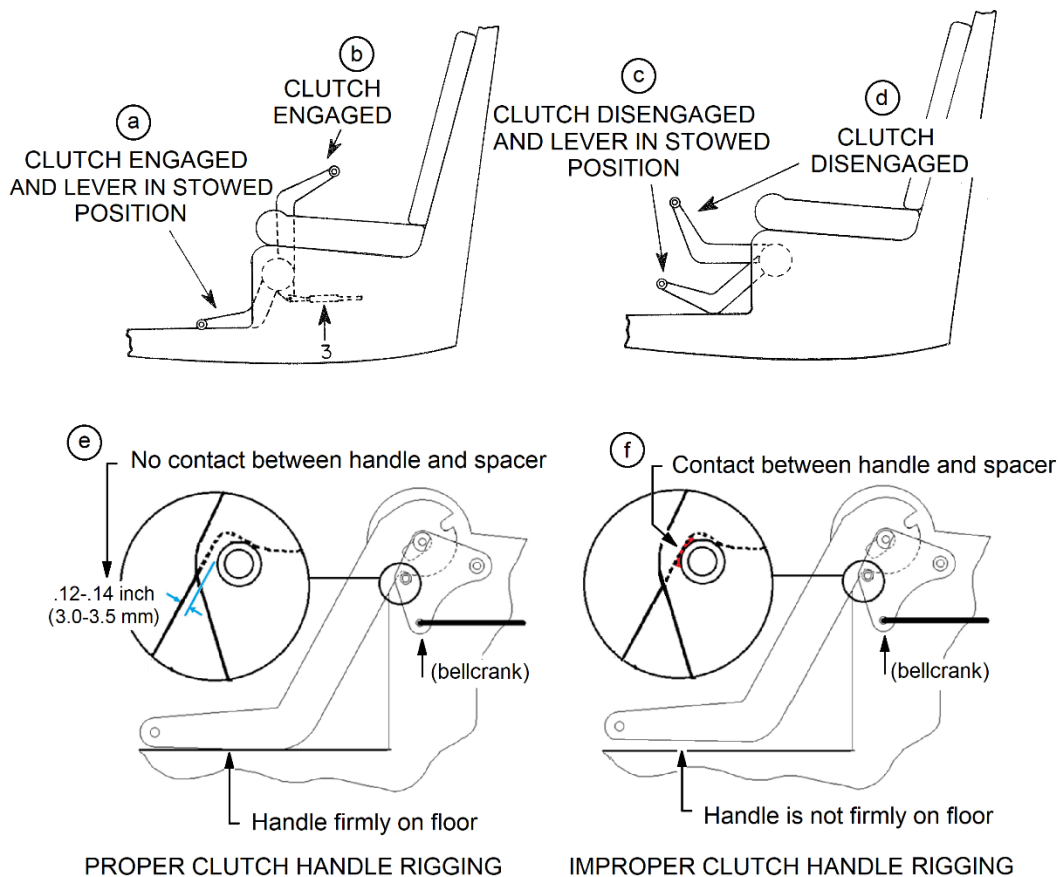

Figure 11-1. Clutch Rigging
- (1) Pull clutch handle up a couple inches and SLOWLY return lever to CLUTCH DISENGAGED position (Fig. 11-1, Detail d).
- (2) ENGAGE clutch and STOW clutch lever (Fig. 11-1, Detail a).
- (a) The clutch lever should lie flat on the floor (Fig. 11-1, Detail a). Movement of the handle should have no effect on the bellcrank (Fig. 11-1, Detail f).
- (b) Use the shank of a 1/8 drill bit or a #30 drill bit to verify that there is approximately .125-inch (3.2 mm) space between the clutch lever and the spacer in the bellcrank (Fig. 11-1, Detail e).
- (a) Place clutch in ENGAGED position (Fig. 11-1, Detail b). With clutch engaged, lift and release clutch lever to stowed position (Fig. 11-1, Detail a). Adjust turnbuckle (3) until the clutch lever will lie flat on floor and that there is approximately 0.125 inch/3.2 mm clearance between the handle and the spacer (Fig. 11-1, Detail e).
- 2 Engage the clutch lever (Fig. 11-1, Detail b) and check that belt tension assembly is locked over center with stops (8) contacting side plates (9), and the clutch engage warning light is out (Fig. 11-3, Detail b).
- 3 Disengage the clutch (Fig. 11-1, Detail d).
(3) Spring Capsule Slide Connection Adjustment
- (e) Secure rod end (1) to bellcrank (2). Torque nut (30-40 in-lb/3.4-4.5 Nm).
- (f) Secure yoke jam nut (5) against yoke (4) (40-45 ft-lb/4.5-5.1 Nm).
- 1 Spring capsule adapter (6) jam nuts.
- 2 Yoke jam nut (5).
- 3 Clutch cable rod end jam nut (12).
- (6) Final Clutch Lever Adjustment Check
- (a) With the clutch engaged and clutch lever in stowed position, the clutch lever should lie flat on the floor (Fig. 11-1, Detail a). Movement of the handle should have no effect on the bellcrank (Fig. 11-1, Detail e and Detail f).
- (b) Use the shank of a 1/8 drill bit or a #30 drill bit to verify that there is approximately 0.125-inch (3.2 mm) space between the clutch lever and the spacer in the bellcrank (Fig. 11-1, Detail e).
| 3. | Turnbuckle (Fig. 11-1) | 6. | Shaft |